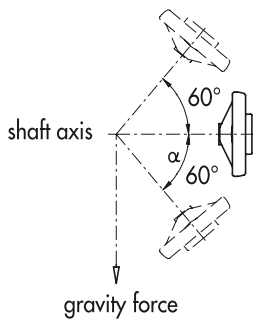

Fig.3
**5.1** The gravity indicator is more accurate when used on horizontal control spindles. It can be however used on spindles max 60° inclined, but the accuracy decreases as the angle of inclination  $\alpha^\circ$  increases (fig. 3).